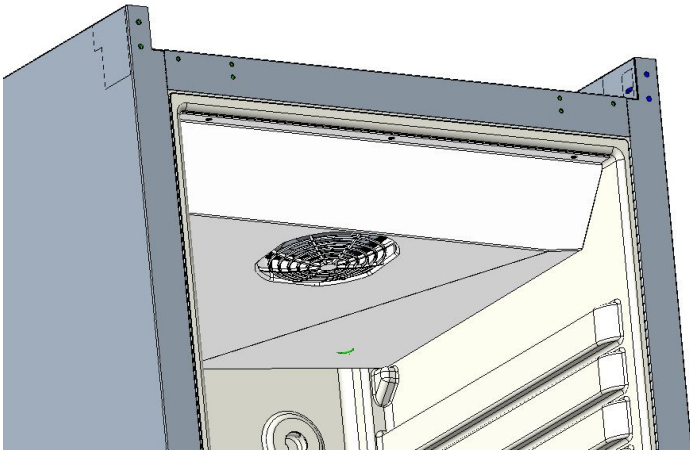

Fig. 6
1. Unscrew the dew collector 3 screws as shown in fig 6.
2. Unscrew the dew collector 3 screws as shown in fig 6.
2. Remove the dew collector as shown in figure 6